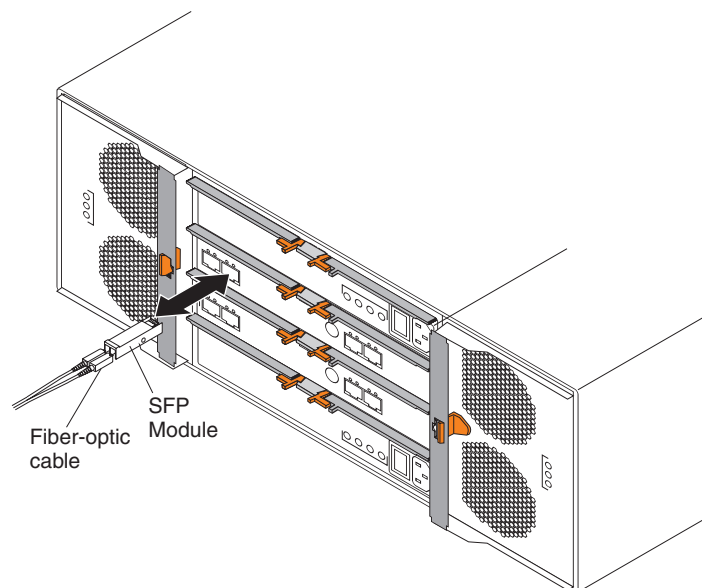

Figure 26. Installing an SFP module and connecting an LC-LC cable to the EXP5060
3. Install an SFP module in the SFP port on the back of the EXP5060; then, connect the other end of the LC-LC cable into the SFP module, as shown in Figure 26.